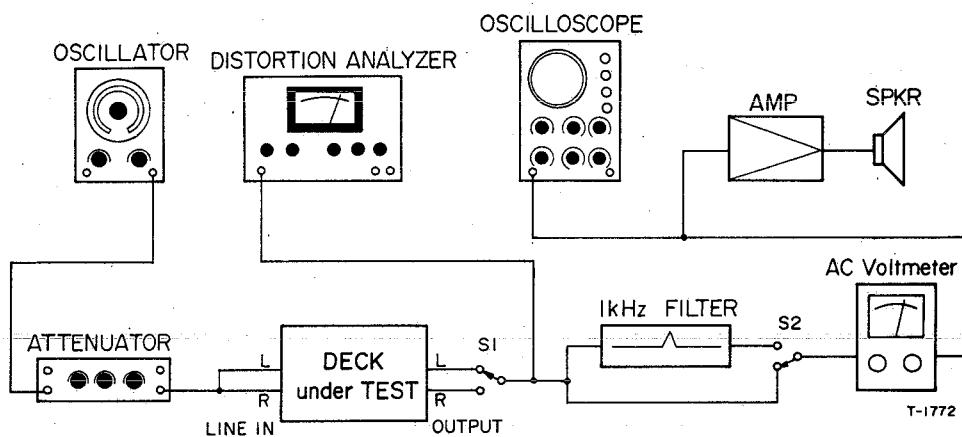

Fig. 5-1 Basic test setup
16. Erase efficiency	<ul style="list-style-type: none"> • Connection - Fig. 5-1. But switch ON 1 kHz filter. • Record 1 kHz. Rewind tape to mid point of recorded portion. Do "no signal" recording. Get difference between 1 kHz portion and its erased portion.
17. REC MUTE function	<ul style="list-style-type: none"> • Connection - Fig. 5-1. But switch ON 1 kHz filter. • Record 1 kHz. Then push REC MUTE button for several sec. Rewind and play tape. Get difference between 1 kHz portion and the "no signal" portion.
18. Channel separation	<ul style="list-style-type: none"> Connection – Fig. 5-1. But do not connect LINE IN (R), switch ON 1 kHz filter. Set deck in record mode. Find differences between 1 kHz recorded portion (L-ch) and "no signal" portion (R-ch).
19. Adjacent track crosstalk	<ul style="list-style-type: none"> Connection – Fig. 5-1. But do not connect LINE IN (L) and OUTPUT (L). Record 125 Hz on R-ch. Note output level of its recorded portion. Invert tape and play R-ch track. Check leakage level against the output reference of previously recorded portion.